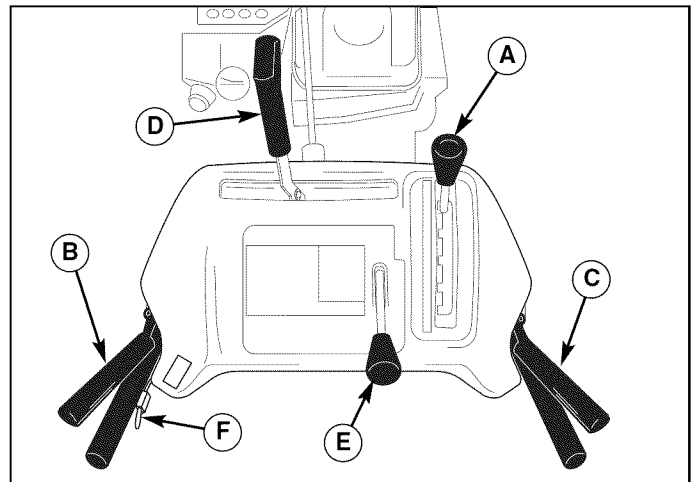

Figure 2. Controls (from operator's position)
7. Check the drive control (B, Figure 2), and auger control (C) for proper operation. If adjustment is required, see the service section for procedures.
8. Check the chute direction control (D, Figure 2) for proper operation. The discharge chute should rotate freely in both directions. See the service section for adjustment procedures and troubleshooting.
9. Check the chute deflector (E, Figure 2) for proper operation. The deflector should pivot freely up and down.
11. Check the speed selector (A, Figure 2) for smooth operation. The control must move freely into each speed position gate and remain in position when released. If the speed selector does not move freely into all forward and reverse speed positions, contact your local authorized dealer for assistance.
3. Fully press and hold the auger engage control (C, Figure 2) on the right-hand grip to begin auger rotation. Releasing the auger engage control will disengage the auger —**unless the Free-Hand™ Control has been activated (See step 5 below).**
4. Fully press and hold the traction & Free-Hand™ Control lever (B, Figure 2) on the left-hand grip to engage the traction drive and begin moving the snowthrower. To disengage the traction drive, completely release the lever.
6. Select forward or reverse speeds as needed using the Speed Selector (A, Figure 2). Release both control levers before changing drive speeds.
Use the speed selector (A, Figure 2) to control the drive speed of the snowthrower. There are five forward speeds and two reverse speeds.
To change speeds, release the auger control lever (B, Figure 2), then move the speed selector to the desired setting. Fully depress the control levers to resume.